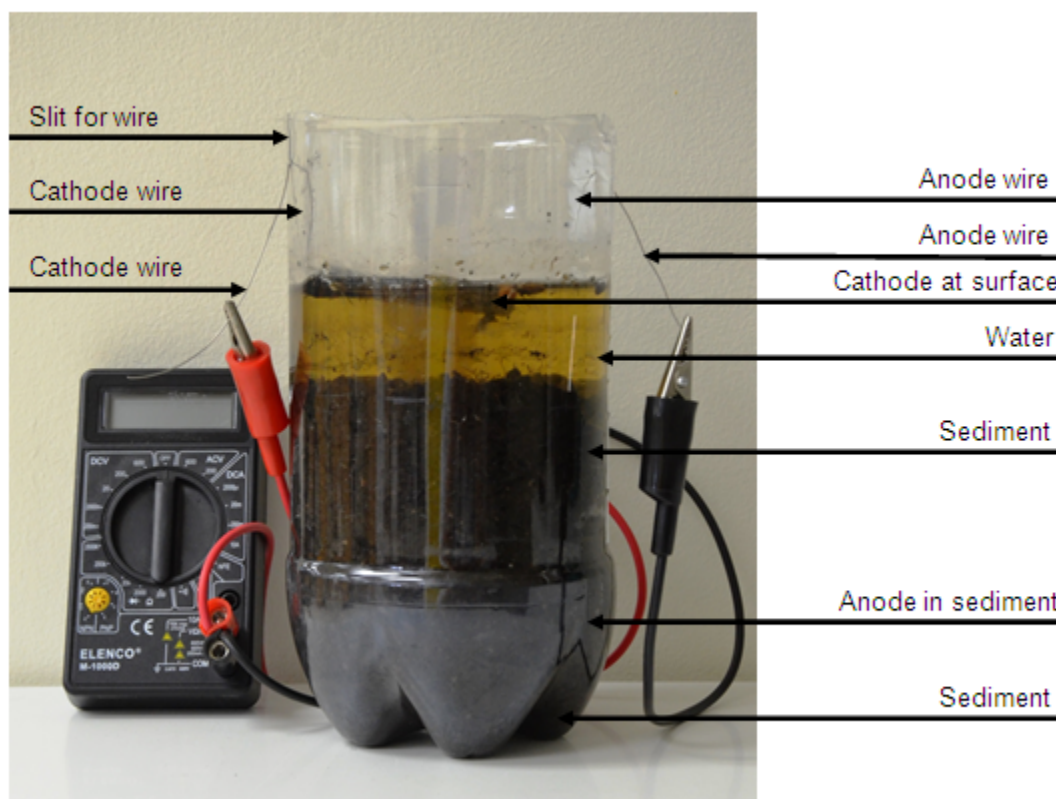

Figure 1. Microbial fuel cell with multimeter.
18. See Figure 1 for a completed microbial fuel cell